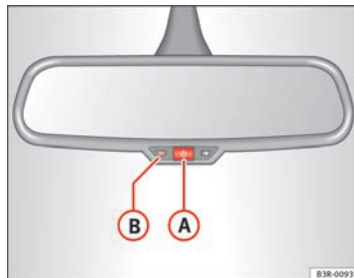

Fig. 103 Interior rear view mirror with anti-dazzle setting: Indicator lamp and on/off switch
- Press button **A** ⇒ fig. 103. Warning lamp **B** goes out:
- Press button **A** ⇒ fig. 103. The indicator lamp **B** will light up.